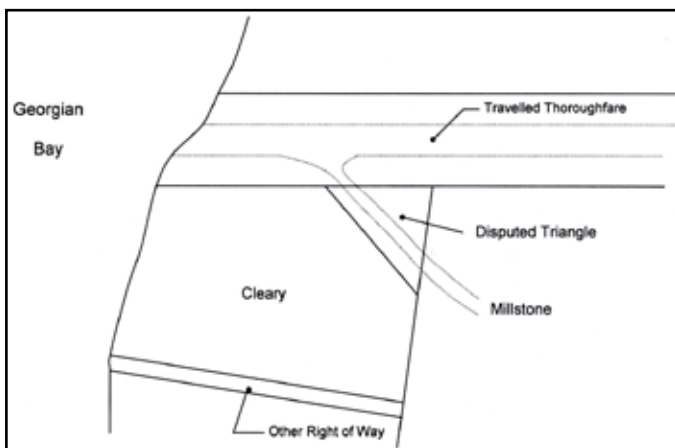

Figure 3: *Millstone v. Cleary*
Tropospheric delay, normally a nuisance parameter which must be accounted for in PPP processing, can in fact be very useful in assessing the quality of a solution. Tropospheric delay normally varies slowly in time, in the order of 10cm or less per hour. Therefore, any large and rapid variations show signs of a weak or incorrect PPP solution, unless a severe weather front moved rapidly into the survey region. Figures 3(a) and (b) are examples of expected tropospheric behaviour while the large and rapid variations depicted on Figure 3(c) were caused by undetected cycle slips. While the CSRS-PPP observation
**Figure 3: Smoothly varying tropospheric delay of (a) and (b) are indicative of normal PPP estimation while the rapid and large variations in (c) are indicative of possible estimation problems such as uncorrected cycle slips.**
(Millstone). The schematic sketch in Figure 3 illustrates the general configuration.